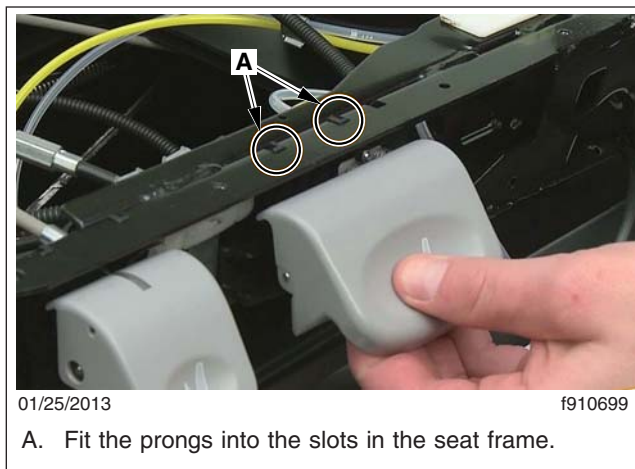

Fig. 1, Installing the Height Adjustment Lever
1. Install the height adjustment lever on the seat frame. Make sure the two prongs fit into the slots in the seat frame. See Fig. 1.